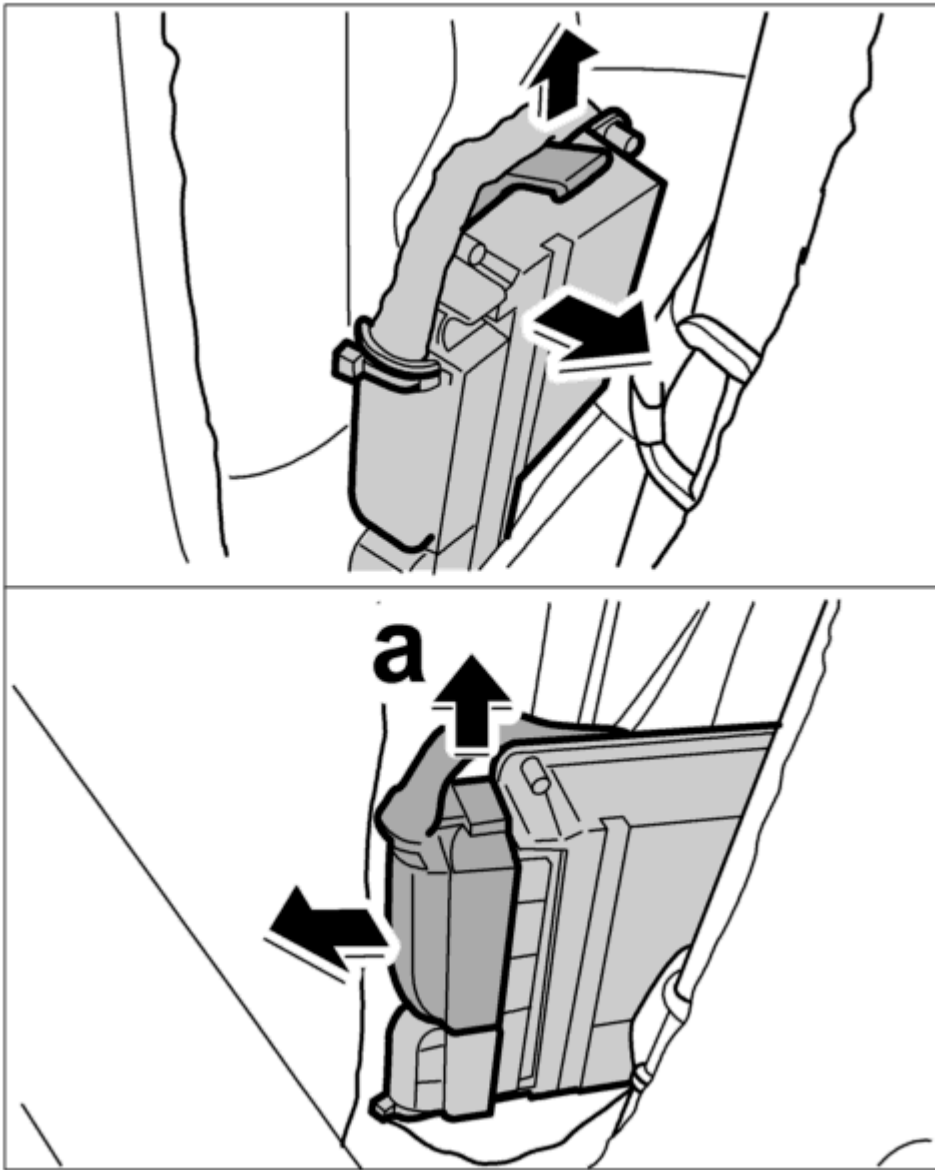

Fig. 59: Pull plug off at the top of the level control module.
4. Pull the latch of the upper electrical plug upwards -a- and remove plug. See **Fig. 59**.